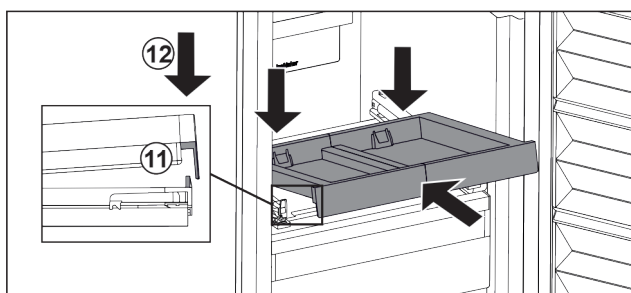

Fig. 36
- ▶ Slide in at an angle. Make sure that the stop is behind the lug on both sides. Fig. 36 (11)
- ▶ Lower the pull-out board at the front. Fig. 36 (12)